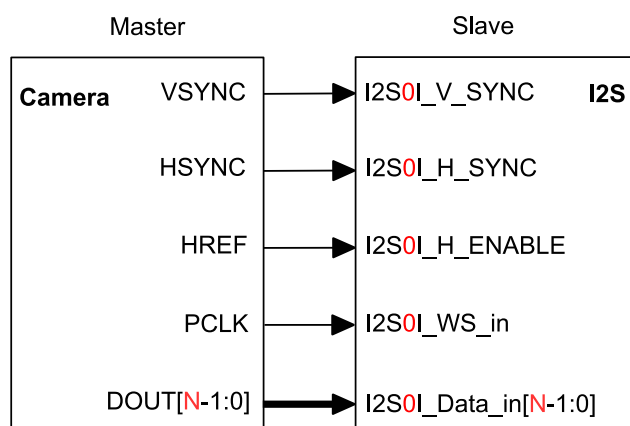

Figure 26.11-1. Camera Slave Receiving Mode
ESP32-S2 I2S can be configured as camera slave receiving mode for high-speed data transfer with external camera modules. In this mode, I2S module works as slave receiver with a 16-channel data signal bus I2S_{OI}_Data_in[15:0], and three more signals: I2S_{OI}_H_SYNC, I2S_{OI}_V_SYNC, and I2S_{OI}_H_ENABLE, see Figure 26.11-1.
2. Configure signal pins according to Table 26.2-1 and Figure 26.11-1.